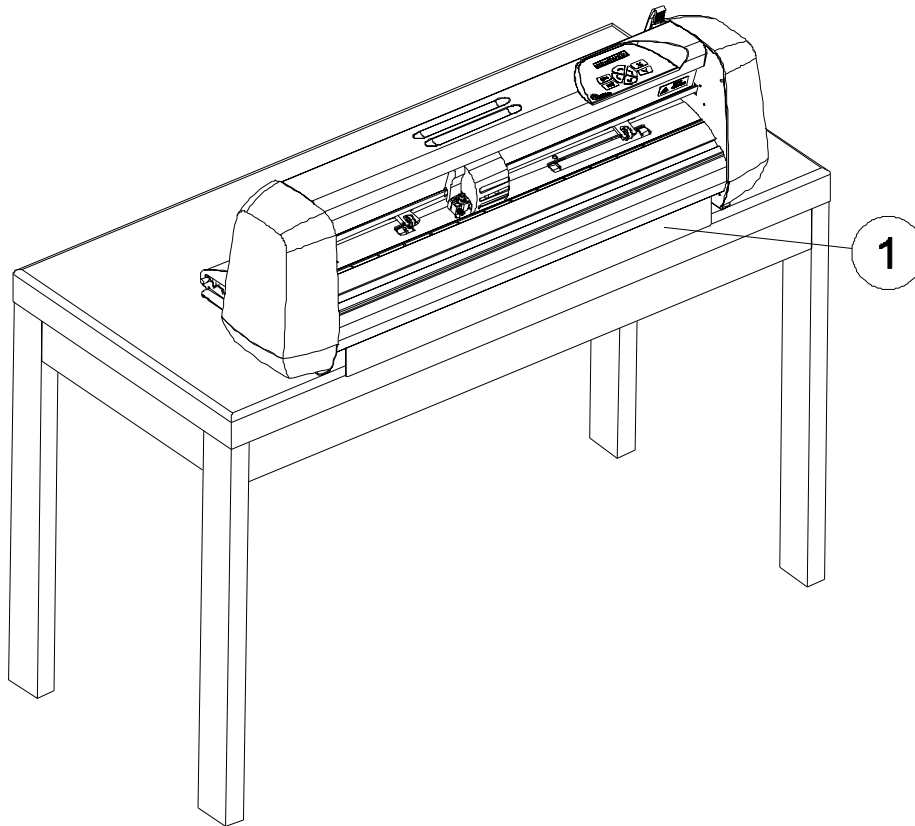

FIG 1-1
The cutter is equipped with a front media deflection flap. Do not damage this flap when placing the cutter on a surface. Figure 1-1 illustrates how the cutter should be positioned on a flat surface with its flap (1) hanging freely over the edge.